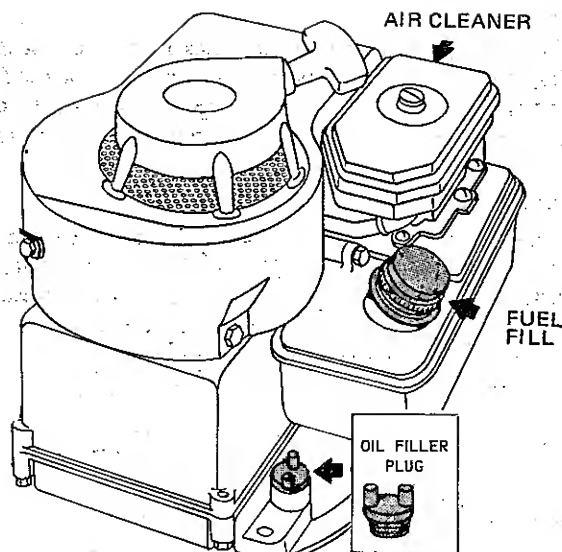

Figure 7
2. Check engine oil by removing oil fill plug (Figure 7). Before removing plug, clean area around plug to prevent dirt from entering oil fill hole. Engine should be in a level position when checking oil. Oil level should be to the point of overflowing. If required to add oil, refer to Maintenance section of this manual for oil type.
3. Check fuel supply by removing fuel fill cap (Figure 7). Tank should be completely full. If required to add fuel, add clean, fresh, lead-free or leaded, "regular" gasoline.
To drain completely, always place engine level when draining through bottom. Change oil when engine is warm. Use SAE 30 oil and change more often under dusty or dirty conditions. See Figure 7 for location of oil fill plug. Oil capacity is 1-1/4 pints.